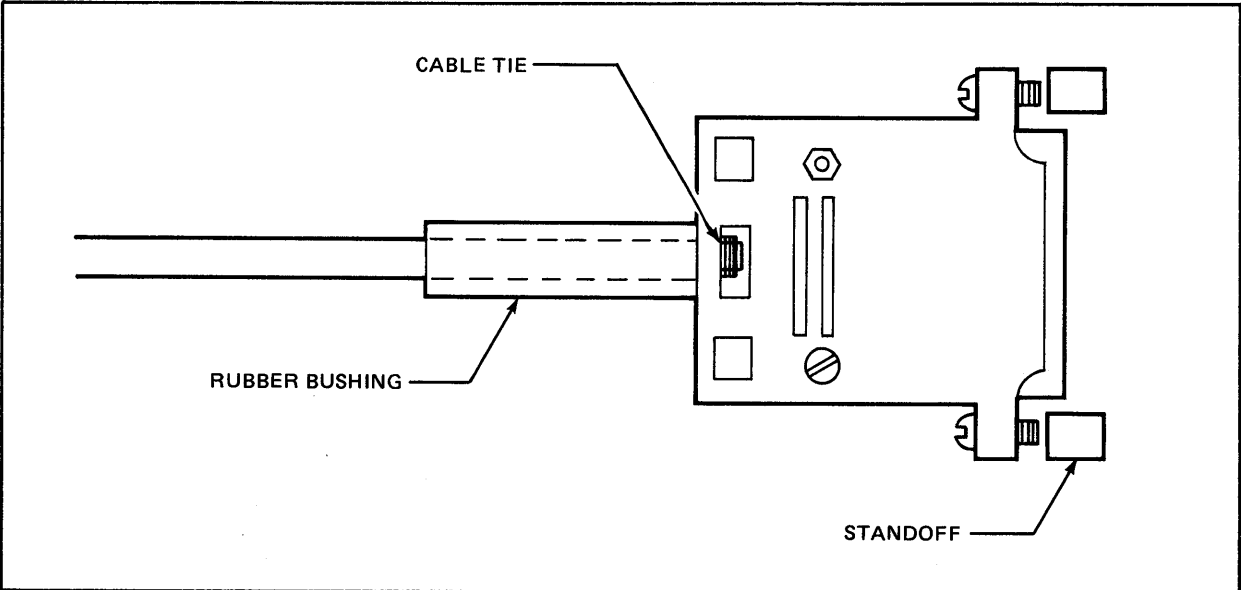

Figure D-12. RS-232-C, 25-Pin, Shell Final Assembly
6. Assemble the connector housing as shown in Figure D-12.